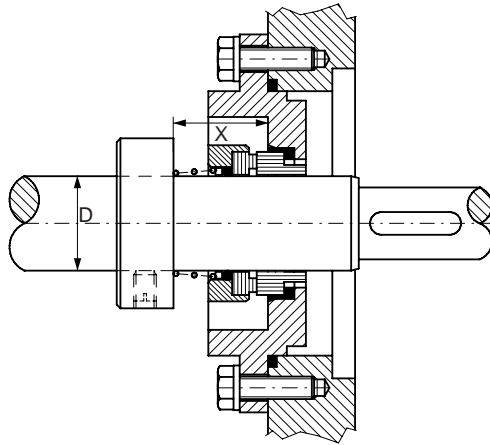

Figure 3
1. If it has been disassembled: Fit the adjusting ring (549) and adjust it according to figure 3 and the values from the table below.
1. If it has been disassembled: Fit the adjusting ring (549) and adjust it according to figure 3 and the corresponding table.
2. Fit the rotating part of the mechanical seal **with the left-wound spring** (532) onto the shaft, the seal face facing the impeller.
3. If it has been disassembled: Place the O-ring (508) and refit the seal housing (20) to the back plate (6).
4. Apply some food grade grease to the seal seats and push both static rings of the mechanical seals (532 and 519) in the seal seats of the seal housing (20). The static ring belonging to the exterior seal (532) is fitted at motor side.
5. Fit the back plate (6) with the seal housing (20).
6. Q1: Fit the rotating part of the other mechanical seal (519) onto the shaft.
7. Q2: Fit the rotating part of the other mechanical seal (567) onto the shaft. Line up the rear side of the mechanical seal with the shaft collar and tighten the lock screws.